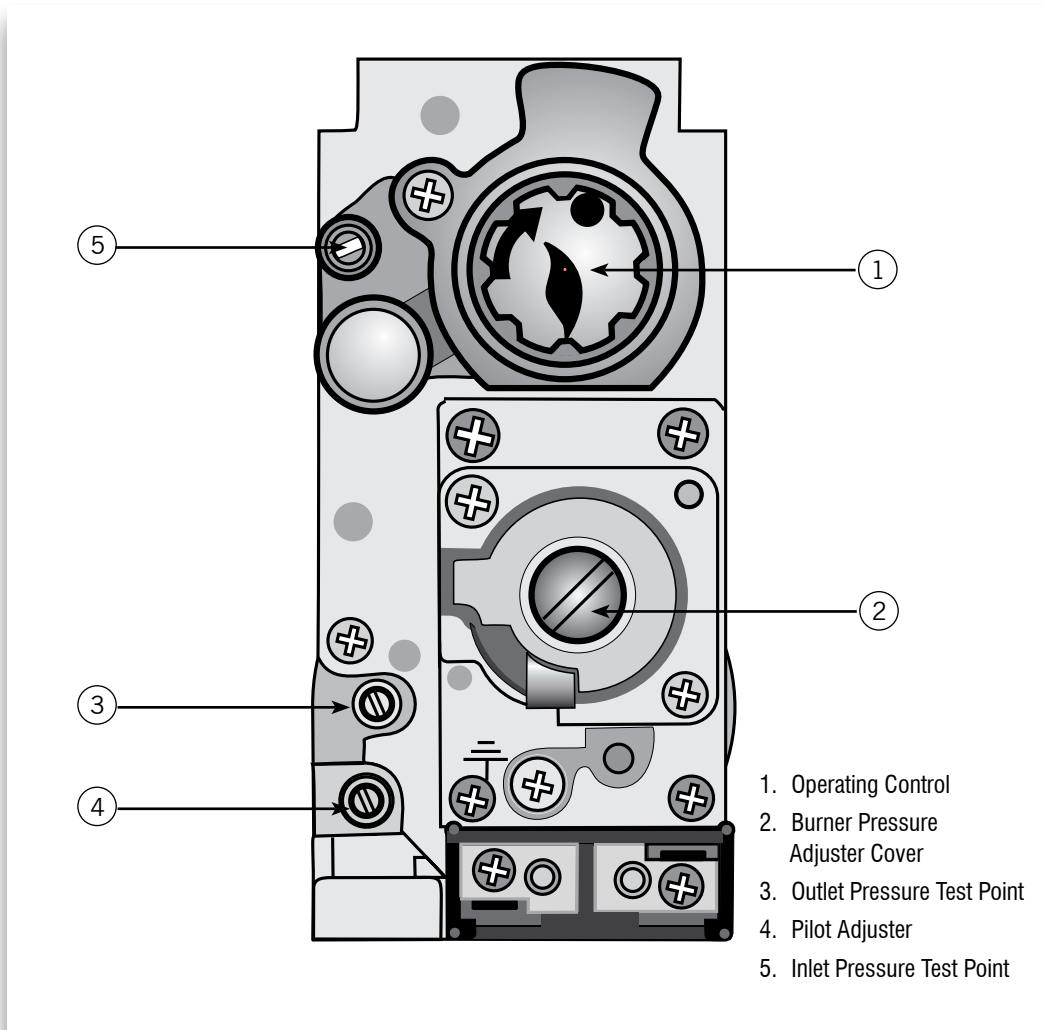

FIGURE 4. MULTIFUNCTIONAL CONTROL
- 7.3.2 On the Multifunctional Control, remove the Outlet Pressure test point cover, and fit a pressure test gauge (refer Figure 4).
- 7.3.4 Referring to Figure 4, press and hold the OPERATING CONTROL, and whilst observing the Pilot Burner, repeatedly press the Piezo igniter button until Pilot burner ignites.
7.4.1 Referring to Table 4 and Figure 4 below, ensure that the pressure test gauge indicates correct burner pressure, resetting if required as follows:.